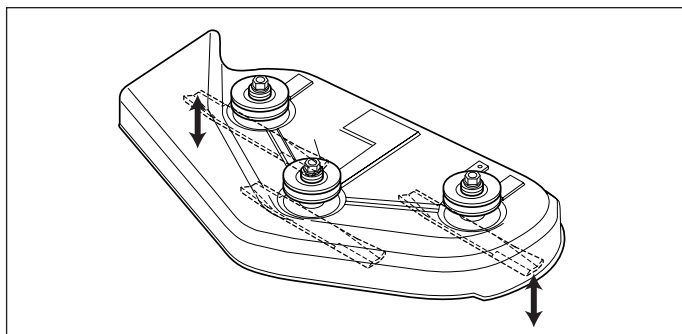
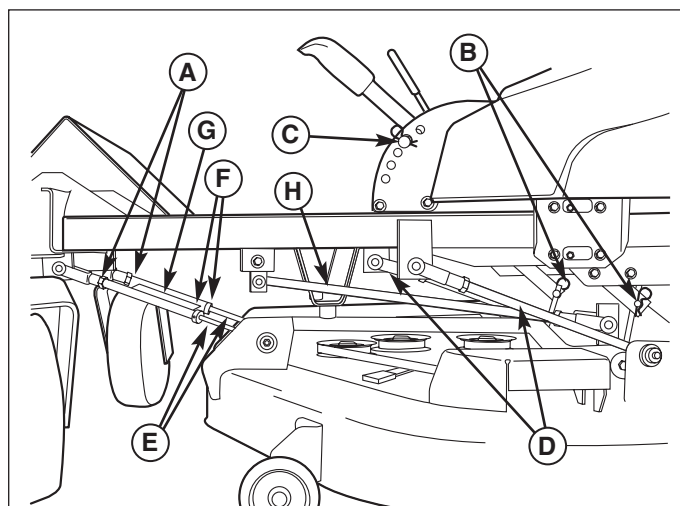

Figure 27. Orient Blades Side-to-Side
Figure 29. Mower Leveling
Note: Do not adjust the mower lift height rod (H, Figure 29) as it will effect the mower deck lift height.
3. Place the mower cutting height pin in the 4th hole from the bottom (C, Figure 29). Arrange the outside mower blades so that they are pointing from side-to-side (Figure 27).
4. Measure the distance between the outside tips of each blade and the ground (Figures 27 & 28). If there is more than 1/8" (3mm) difference between the measurements on each side, proceed to step 5. If the difference is 1/8" (3mm) or less, proceed to step 6.
5. Use the rear leveling rods (B, Figure 29) to adjust the side-to-side leveling of the deck. Repeat step 4 if necessary.
8. Check the length of the hanging rods: the rear (D, Figure 29) should be 15" (38,1cm) and is not adjusted. The front rods (E) should be initially adjusted to 14-3/4" (37,5cm). To adjust the pitch of the mower deck, adjust the front pitch rods only.
9. To lower the front of mower deck, loosen the set collars (F, Figure 29) and slide towards the mower deck, loosen the jam nuts (A) and adjust the clevises out. Reverse this to raise the front of the mower. Be sure to raise or lower both clevis the same amount.
3. Place the mower cutting height pin in the 4th hole from the bottom (C, Figure 29).
1. Place the mower cutting height control in the 4-1/2" position (C, Figure 29).